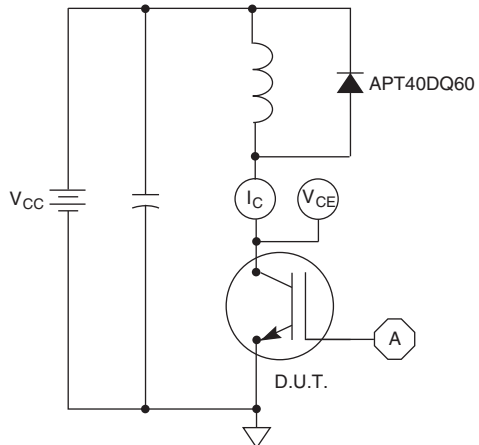

Figure 21, Inductive Switching Test Circuit
- ① Repetitive Rating: Pulse width limited by maximum junction temperature.
- ② For Combi devices, I_{ces} includes both IGBT and FRED leakages
- ③ See MIL-STD-750 Method 3471.
- ④ E_{on1} is the clamped inductive turn-on energy of the IGBT only, without the effect of a commutating diode reverse recovery current adding to the IGBT turn-on loss. Tested in inductive switching test circuit shown in figure 21, but with a Silicon Carbide diode.
- ⑤ E_{on2} is the clamped inductive turn-on energy that includes a commutating diode reverse recovery current in the IGBT turn-on switching loss. (See Figures 21, 22.)
- ⑥ E_{off} is the clamped inductive turn-off energy measured in accordance with JEDEC standard JESD24-1. (See Figures 21, 23.)
- ⑦ R_G is external gate resistance, not including $R_{G(int)}$ nor gate driver impedance. (MIC4452)
- ⑧ Continuous current limited by package lead temperature.